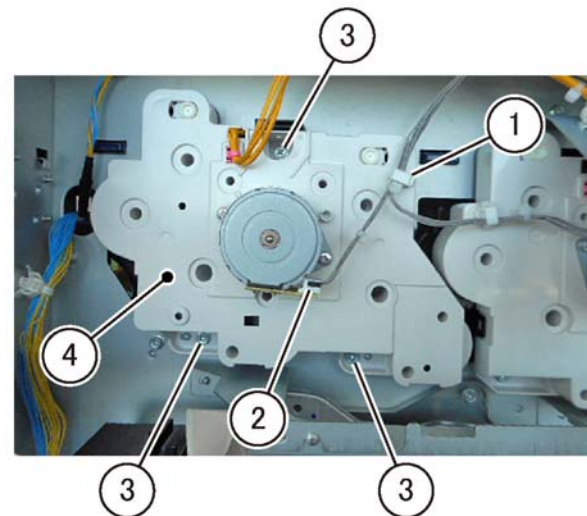

Figure 2 YM dispenser drive removal
10. Remove the dispenser drive (YM), Figure 2.
- a. Release the clamp (1).
- b. Disconnect the connector (2).
- c. Remove three screws (3).
- d. Remove the YM dispenser drive (4).